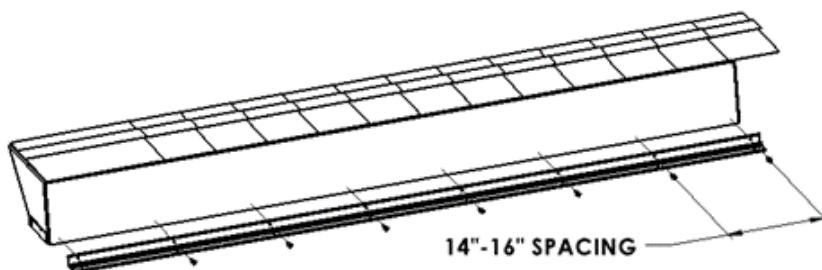
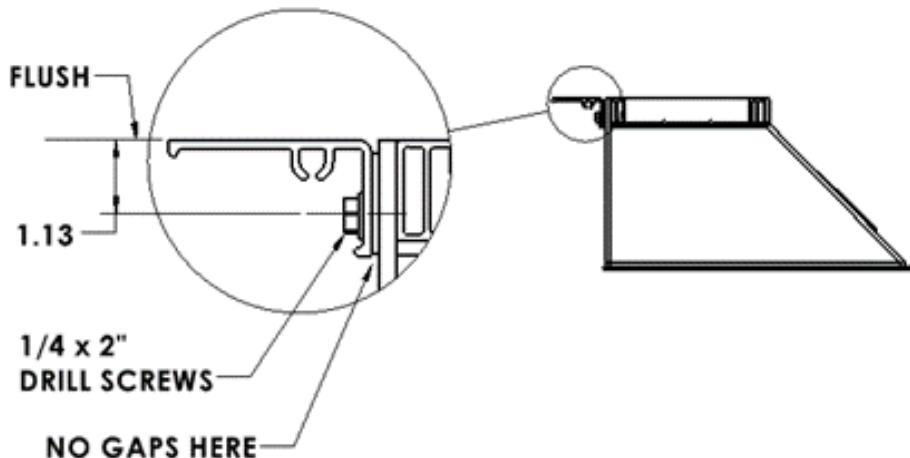

FIGURE 4
FIGURE 5
- Place the Long Bracket w/Seal (A) next to the Left-Side Pad (C), ensuring that the ends of the bracket are flush with the ends of the Side Pad Backer.
- Mark the screw locations on the short side lip of the bracket for the fasteners, as shown (Figure 4 & Figure 5). Fasteners need to be spaced 14"-16" apart. Ensure the new screw locations are not in line with the existing screws on the side of the Left-Side Pad (C).
- d. Use the markings above to screw the Long Bracket w/Seal (A) to the Left-Side Pad (C) using the supplied 1/4"x2" Long Drill Screws (G). Make sure the back side of the Long Side Bracket w/Seal and back side of the Left-Side Pad are flush, as shown (Figure 5). Also, ensure that there are no gaps between them.